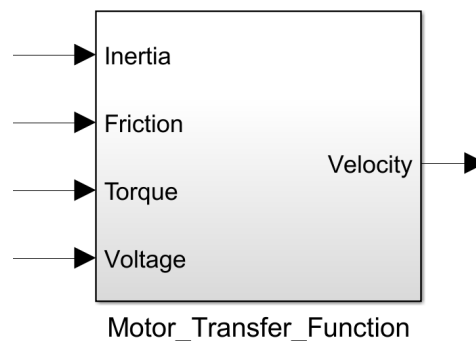
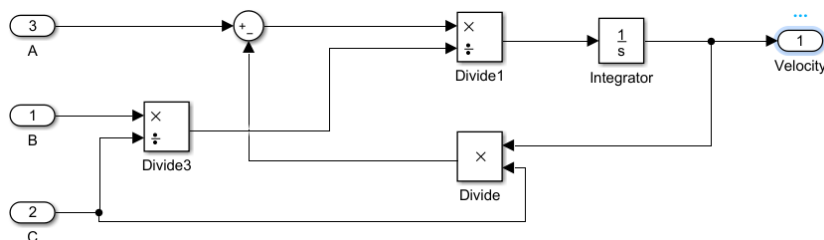

Figure 7.4: Example motor transfer function subsystem interface.
Figure 7.5: Example motor transfer function subsystem contents.
- See Figures 7.4 and 7.5 for examples of what the interface and contents of the subsystem should resemble. Figure 7.5 doesn't represent an actual transfer function—**don't try to use it!**